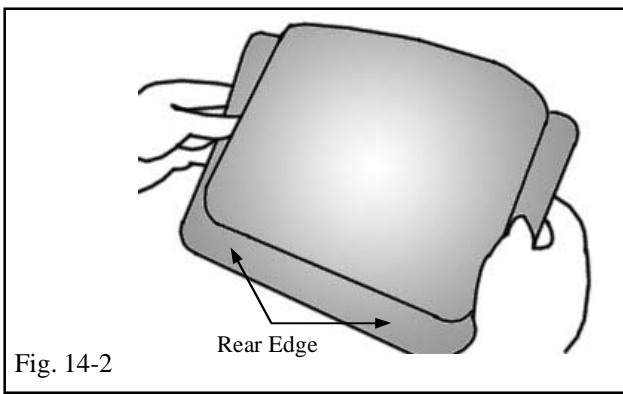

Fig. 14-2
- (1) Do not separate the Velcro™.
- (e) Align the rear edge of the cover with the rear edge of the satellite receiver. (Fig. 14-2).